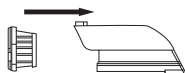

Abb. 6
- Insert the HEPA filter (13) into the dust container (14) (fig. 6).
- Install the assembled dust container (14) into the «hand vacuum cleaner» until the lock (12) clicks, make sure that the dust container (14) is securely fixed.